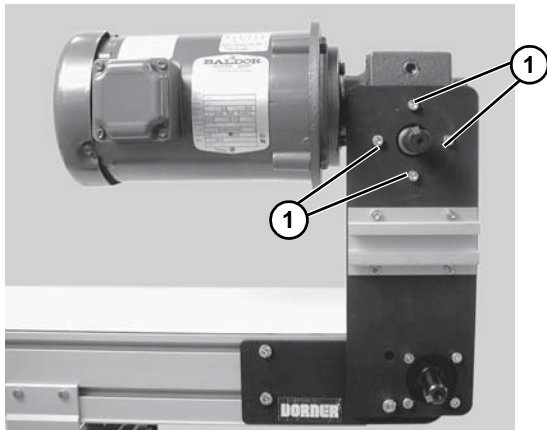

Figure 19
5. Remove four (4) gear reducer mounting screws (**Figure 19, item 1**). Remove gearmotor.
15. Install gearmotor to mounting bracket and tighten screws (Figure 19, item 1) to 110 in-lb (12 Nm).